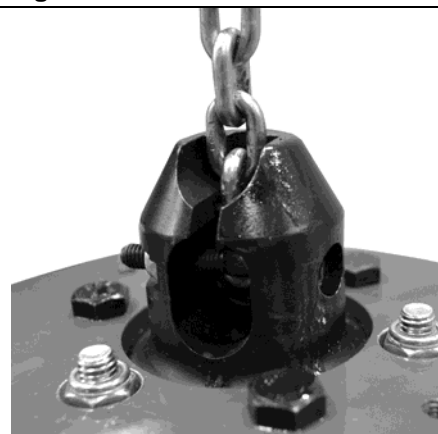

Figure 2-15
- 4) Completed installation of chain to chain keeper on handle. (Refer to Figure 2-15)